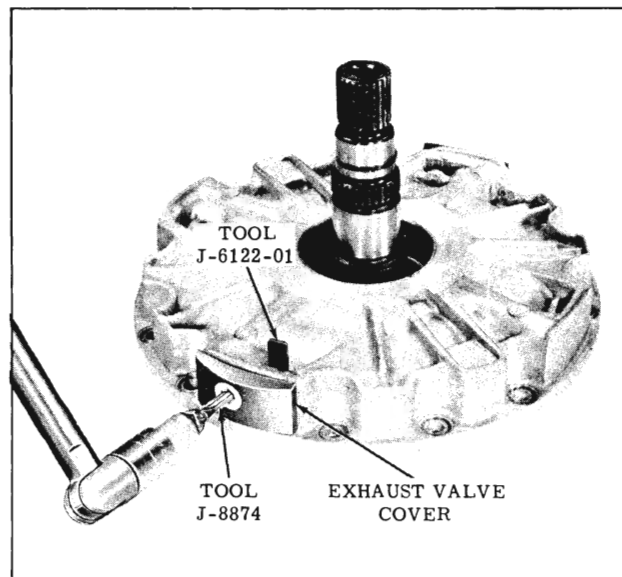

Fig. 3-263 Removing Exhaust Valve Covers
1. Install Tools J-6122-01 Exhaust Valve Retainers, then remove the exhaust valve covers by removing the attaching screws, using Tool J-8874. (Fig. 3-263)